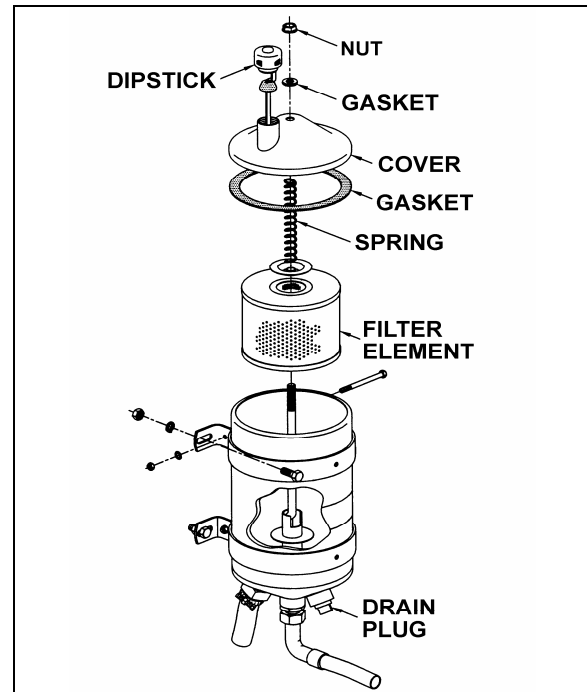

FIGURE 19: POWER STEERING FLUID RESERVOIR
3. Insert dipstick in reservoir. Remove it again to check fluid level (Fig. 19).